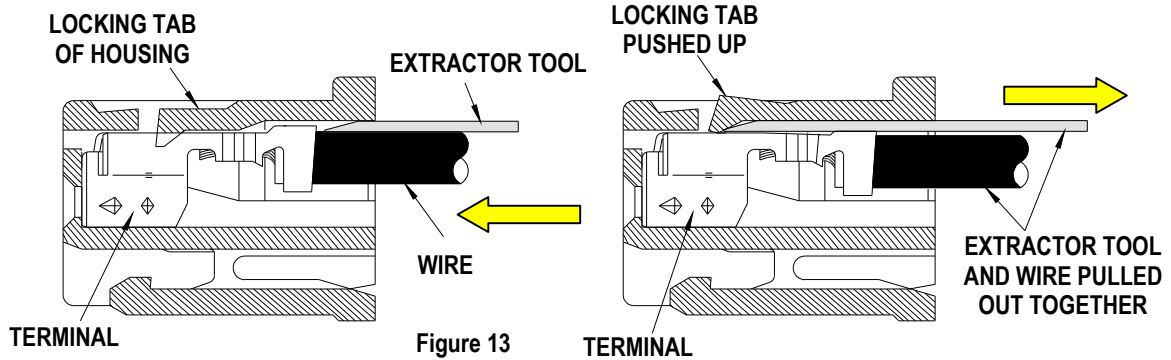

Figure 13
2. Insert the Extractor Tool into the slot above the terminal in the connector housing as shown in Figure 13.